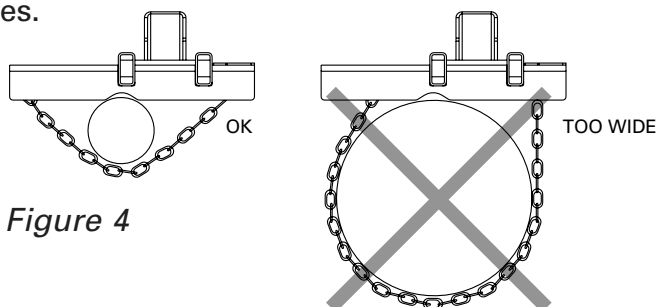

Figure 4
- ⚠ WARNING** When using the Model #2280 floor mount or Model #2281 chain mount, ALWAYS ensure the cable puller is properly pinned onto the floor/chain mount and that the floor/chain mount is properly secured before operating. ALWAYS attach the Model #2281 chain mount to supports that are at least 2" and not more than 10" wide. See Figure 4